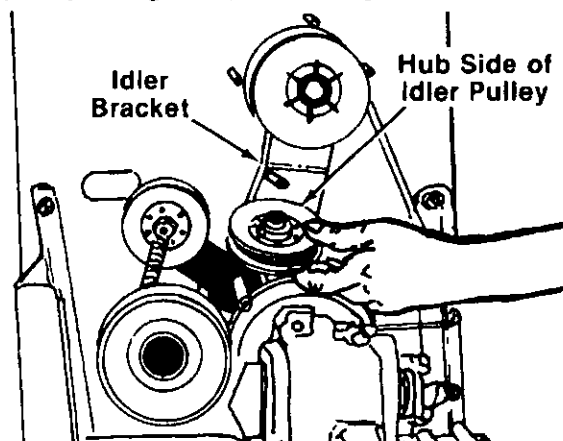

FIGURE 28.
12. Upon reassembly of idler pulley, be certain the hub side of idler goes against the idler bracket. See figure 28.